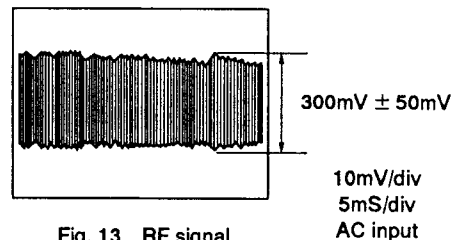

Fig. 13 RF signal
3. Adjust VR601 so that the amplitude of the RF signal becomes  $300\text{mV} \pm 50\text{mV}$ . (Fig. 13)